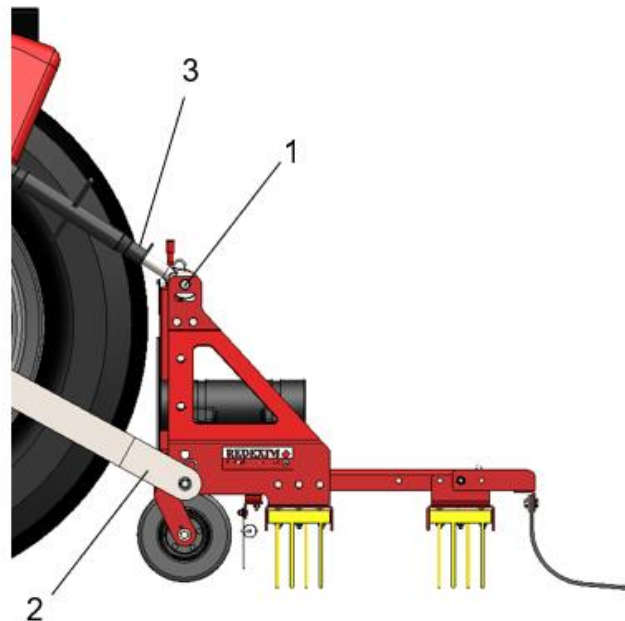

Figure 2
1. Remove the 3-point pins **(1)** from the machine **(see Figure 2)**.
The machine should be detached in the following manner (see Figure 2):